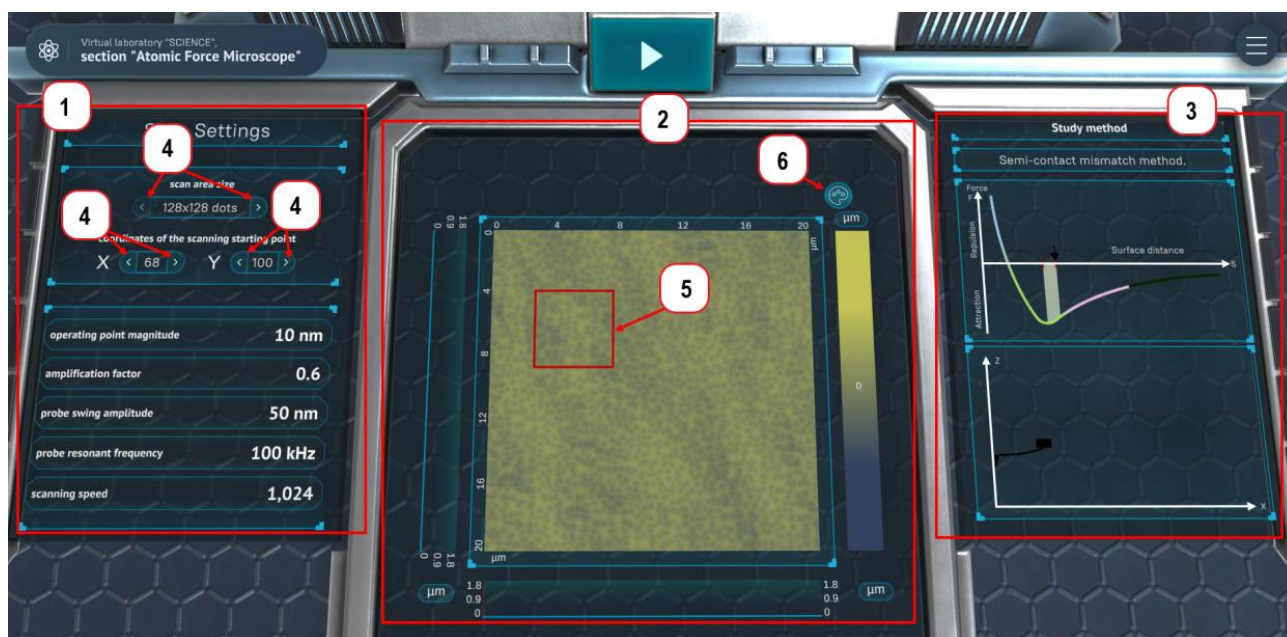
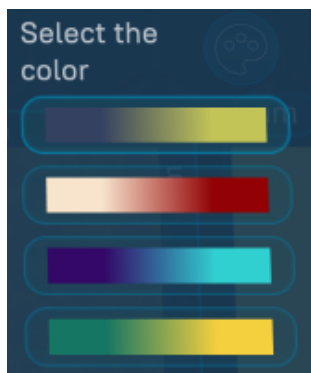

Figure 14 – Scan settings
Figure 15 – Palette selection menu
The display on the left (1 in Figure 14) shows the scanning settings, the display in the center (2) shows the scanning area, and the display on the right (3) shows study methods.
The scanning area is indicated by a square (5 in Figure 14) on the central display. To change the size of the scanning area and the coordinates of the scanning starting point, use the  /  buttons (4).
To customize the height scale palette, press the  button (6 in Figure 14) on the central display and select the desired color from the menu (Figure 15). You can change the palette after scanning the sample.
During setup, the **Study method** display (3 in Figure 14) shows: